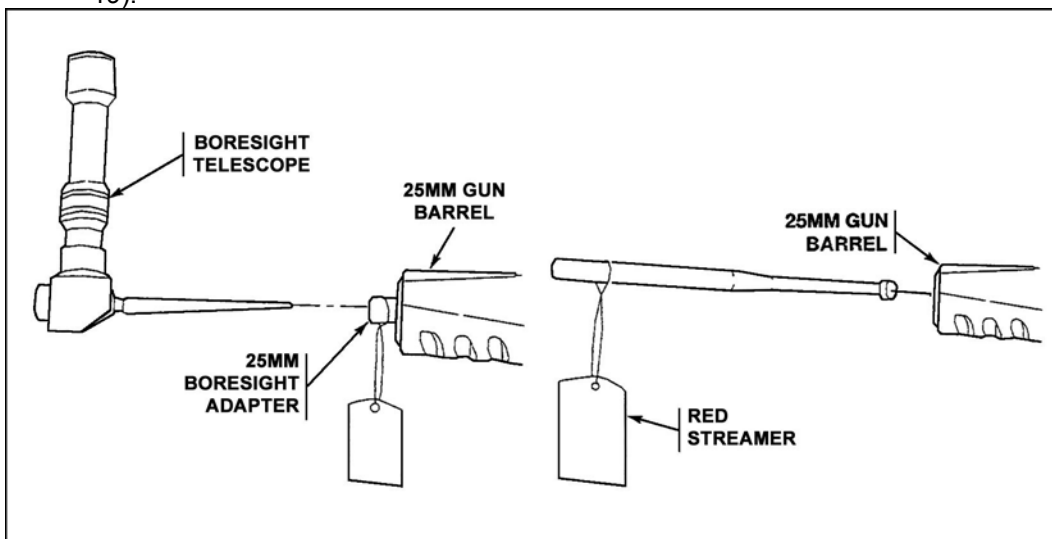

Figure 19. 25mm Boresight adapter and boresight telescope.
- (1) Ensure the system has been nulled.
- (2) Ensure sight shield doors are open.
- (3) Install boresight telescope and adapter with streamer into the 25mm gun barrel (Figure 19).